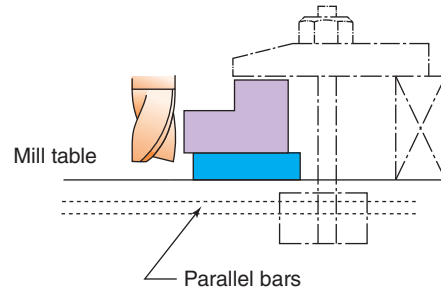

Figure 12-90 Why the parallel under the part? What's missing here?
2. Why are there parallel bars under the work in Fig. 12-90? What is missing from the setup?